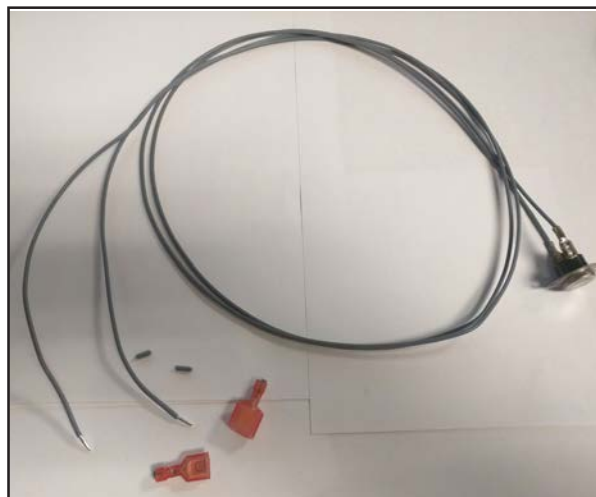

Figure 49: Spill Switch Modification
Step 1: Cut off the connectors from the one end of the wires. Note, the spill switch does not need to be removed from the Draft Hood Adaptor for this modification (Figure 49).